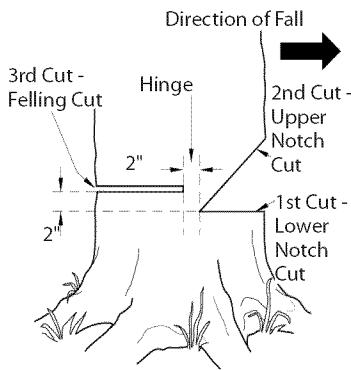

Figure 15 - Felling A Tree
A properly placed felling notch will determine direction tree will fall. Place felling notch on side of tree in direction you want tree to fall (see Figure 15).
1. Make lower notch cut as close to ground as possible. Hold saw so guide bar is horizontal. Cut 1/3 the diameter of tree trunk (see Figure 15). *Note:* Always make this horizontal lower notch cut first. If you make this cut second, tree can pinch chain or guide bar.
1. Make felling cut two inches higher than lower notch cut and on opposite side of tree (see Figure 15). Keep felling cut parallel to lower notch cut.
⚠ WARNING: Do not cut all the way through tree. Leave about two inches of tree diameter uncut directly behind felling notch (see Figure 15). This uncut portion acts as a hinge. The hinge helps keep tree from twisting and falling in wrong direction.